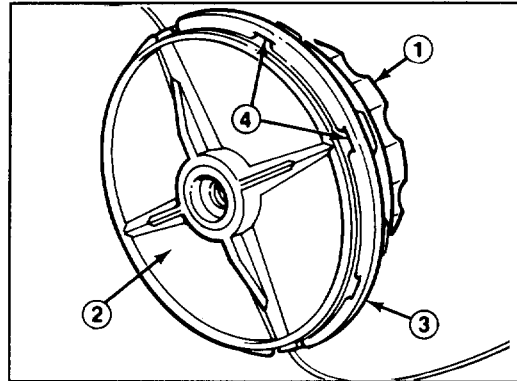

Figure 8
1. Loosen spool knob until spool teeth are above spool housing (Fig. 8).
3. Align spool teeth with notches in spool housing and tighten knob securely. Make sure spool teeth are in notches before tightening knob (Fig. 8).